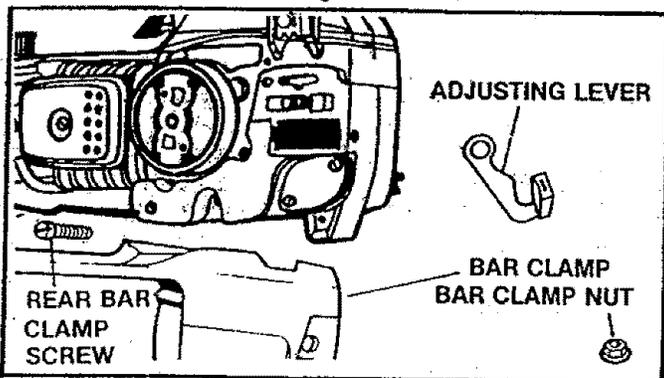

Figure 6
- a. Remove the following parts as shown in Figure 6, using the Bar Adjusting Tool provided with the unit.